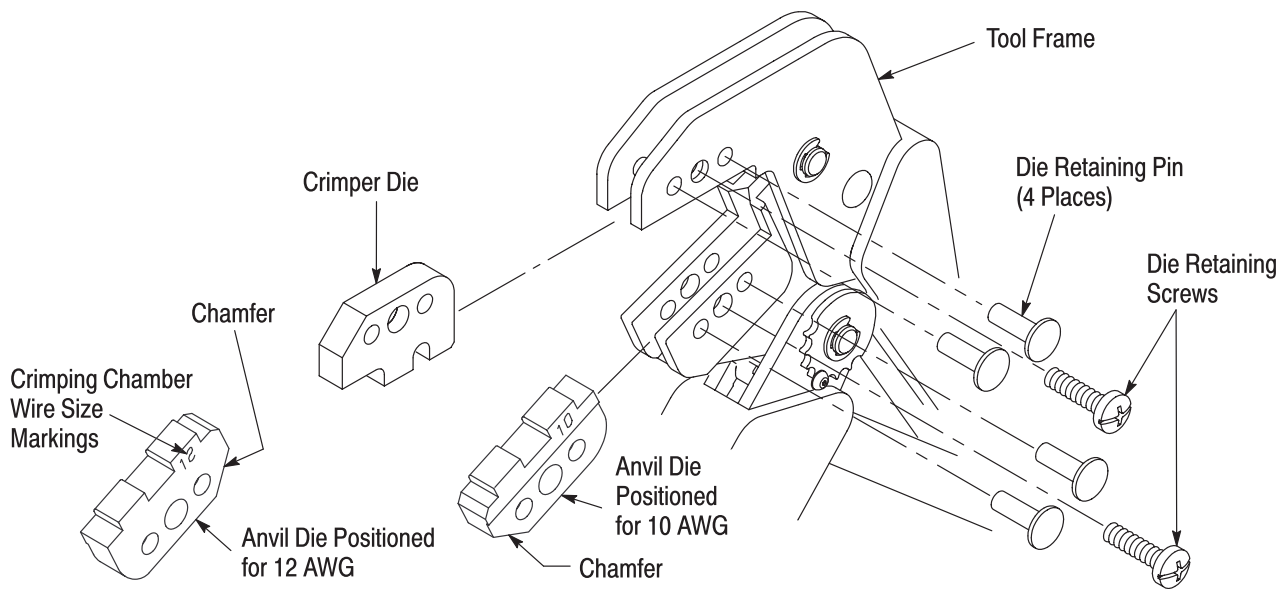

Figure 2
3. INSTALLATION AND REMOVAL OF DIE ASSEMBLY (Figure 2)
- Added callouts to Figure 2